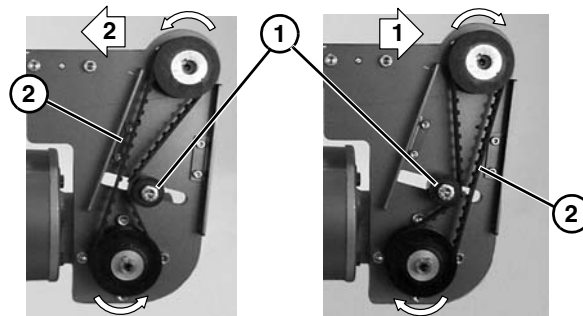

Figure 12
9. Depending on conveyor belt travel (direction 1 or 2), locate timing belt tensioner (**Figure 12, item 1**) as shown. Tension timing belt to obtain 0.125" (3 mm) deflection for 1.0 lb (456 grams) of force at timing belt mid-point (**Figure 12, item 2**). Tighten tensioner screw to 103 in-lb (12 N-m).